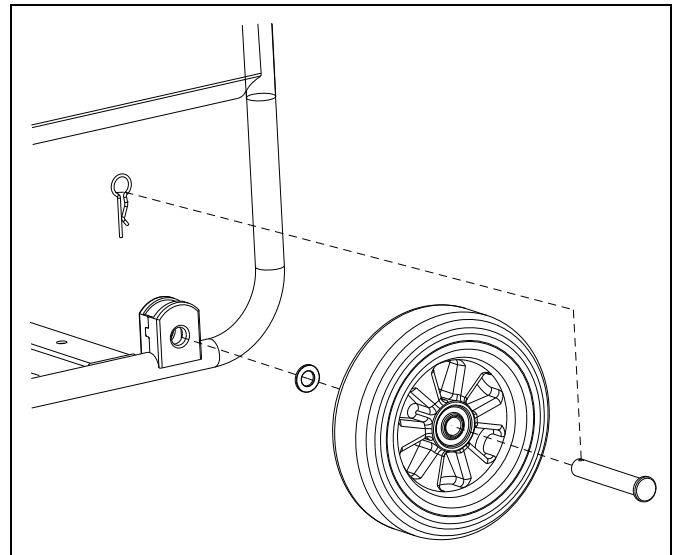

Figure 4-3. Attach Wheels
3. Attach wheels (Figure 4-3).